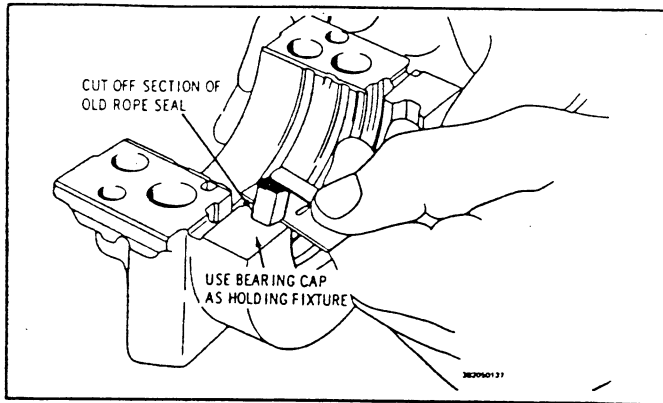

Fig. 54 Cutting Off Seal Ends
2. Measure the amount the seal was driven up on one side; add 1/16", then cut this length from the old seal removed from the main bearing cap with a single edge razor blade. Measure the amount the seal was driven up on the other side. Add 1/16" and cut another length from old seal. Use main bearing cap as a holding fixture when cutting seal (Fig. 54).